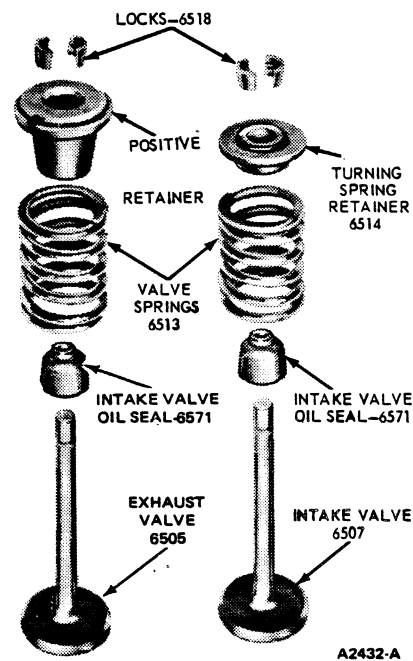

FIG. 62 Valve Assembly
6. Remove the spring retainer, spring, stem seal and valve (Figure 62). Discard the valve stem seals. Identify all valve parts.
3. Oil and install a new intake valve oil seal (Figure 62) on the valves.
- Position the spring retainer on all valve springs. Make sure that a positive rotating retainer is used on all of the exhaust valves (Figure 62).